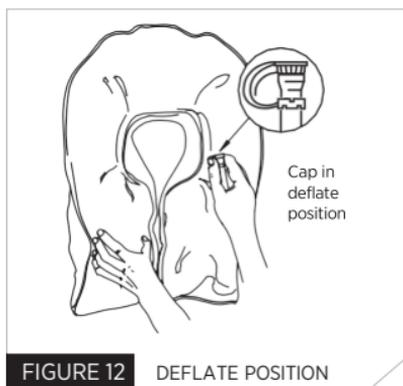
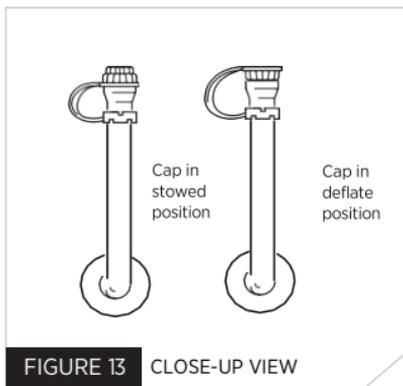

FIGURE 12 DEFLATE POSITION
FIGURE 13 CLOSE-UP VIEW
5. Undo the zipper on the wearer's left side to expose the oral inflator. Ensure the oral inflation cap is on the stowed position (Fig. 13).
- Oral inflator cap is in the stowed position (Fig. 13).
To orally inflate the PFD, locate the oral inflation tube by pulling the red breakout cord on the wearers left hand side. Remove the cap from the end of the oral tube and blow into the tube until the PFD is fully inflated. Place the oral tube cap back in the stowed position (Fig. 13).
1. To deflate the PFD, reverse the oral inflator cap and insert it into the valve. The cap will not lock in the deflate position so you must hold it in place (Fig. 12).
2. Gently squeeze the PFD until all air or gas has been expelled. To avoid damage do not wring or twist the PFD. Put the oral inflator cap back in its stowed position on the oral inflator (Fig. 13).
If your PFD has been used and/or the inflator mechanism replaced, always inflate through the oral tube and check that it stays inflated at least over-night. With the inverted cap in the top of the oral tube, gently squeeze the PFD until all air or gas has been expelled (Fig. 12). Do not wring or twist the PFD. Put the oral tube cap back in its stowed position on the oral tube (Fig. 13). Let the PFD dry before packing.